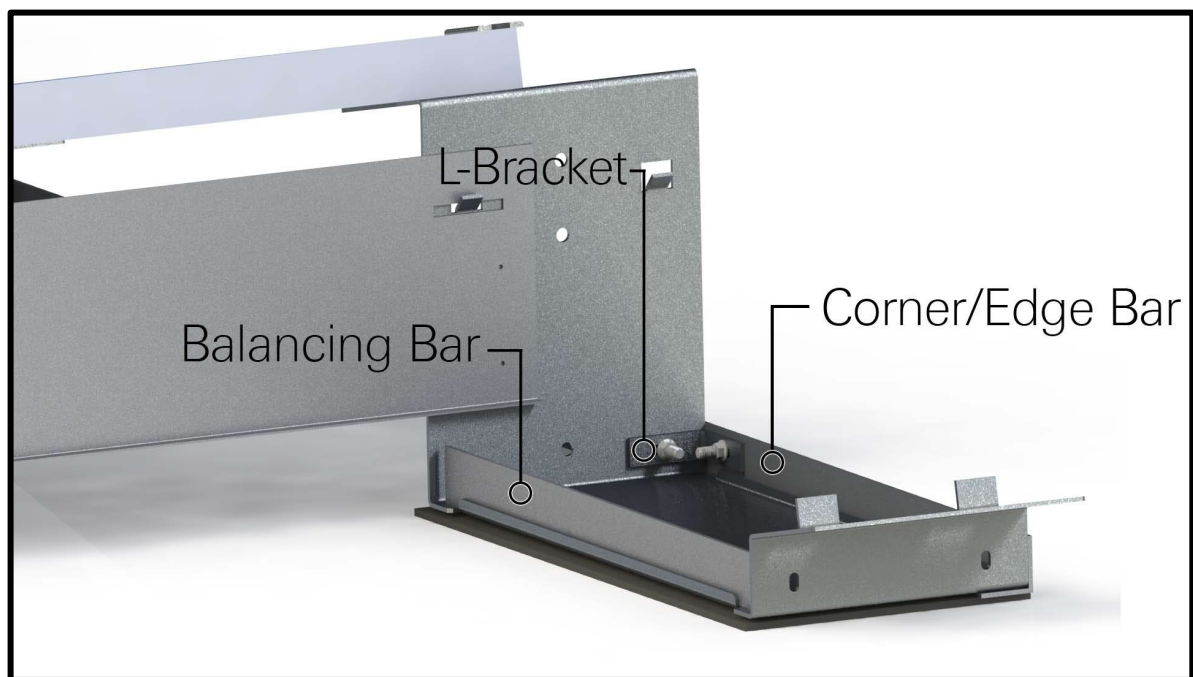

Fig. E2– Balance Bar Placement
- 6 Install Balancing Bars where corner/edge bars connect to a support. Balancing Bars are placed on top of the module support, as shown in Figure E2.